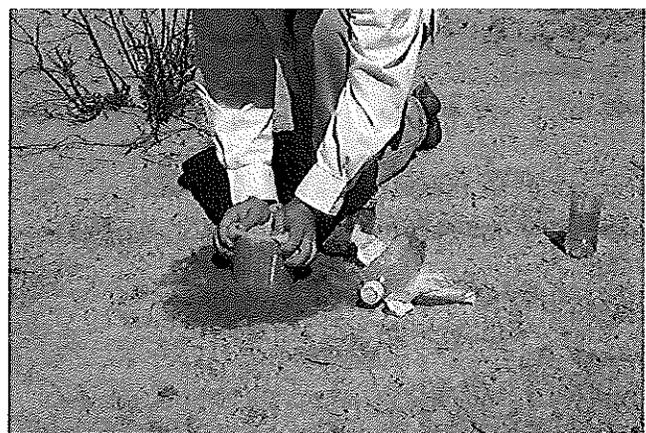

Figure 8.4. Insert infiltration ring to 3 cm.
5. Insert the infiltration ring to a depth of 3 cm ($1\frac{3}{16}$ in) (Fig. 8.4).